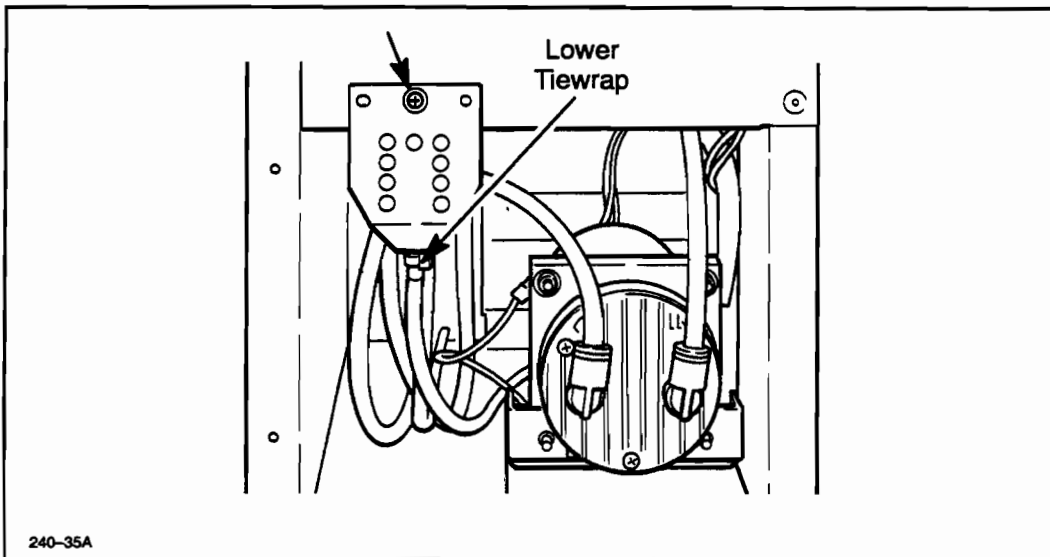

Figure 6-49. Vent Removal
3. Using a #2 phillips screwdriver, remove the vent mounting screw. See Figure 6-49.